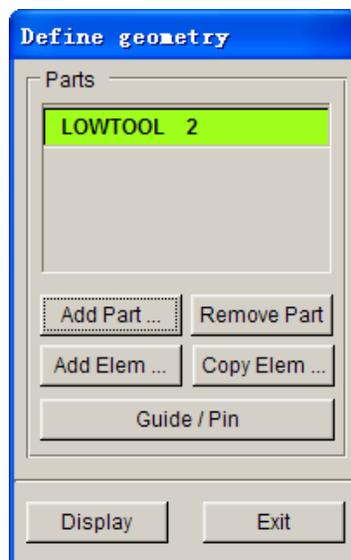

Figure 76: Define geometry dialog box
7. Click **OK** to return to **Define Geometry** dialog box. The **LOWTOOL** part is now added to the list of die, as illustrated in Figure 76.